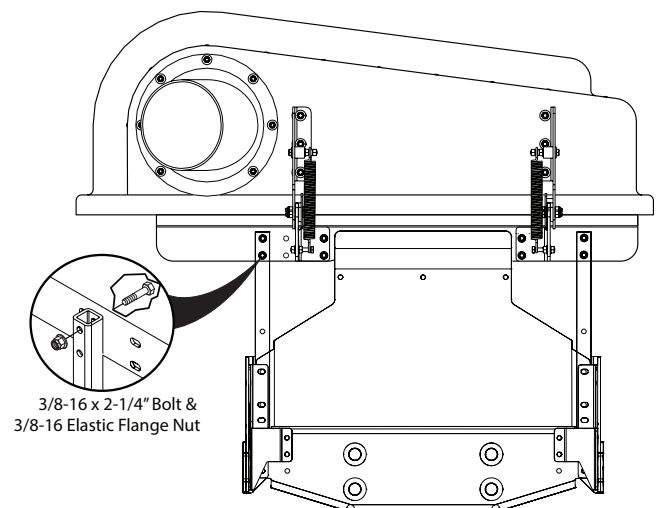

Figure 2-9. Hitch Assembly Installation
3. With help from an assistant, install the grass catcher hitch assembly to the hopper assembly. See Figure 2-9.
4. Secure the upright tubes to the hopper support plate using four (4) 3/8-16 x 2-1/4" bolts and four (4) 3/8-16 elastic flange nuts. See Figure 2-9.